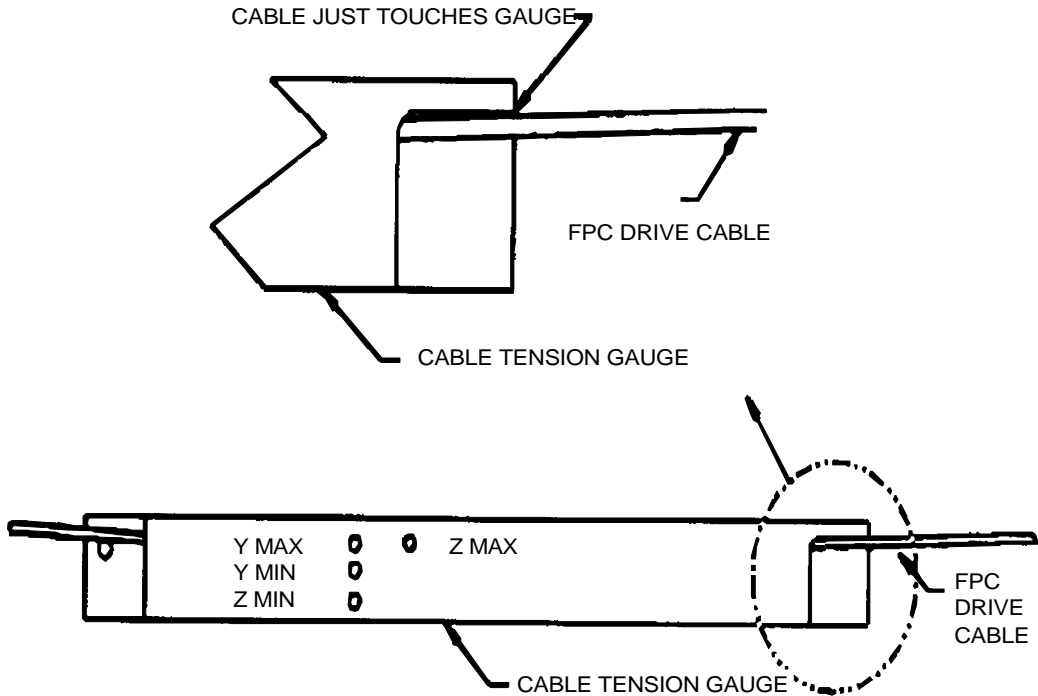

Figure 6. Adjust Cable Tension
- 4. If the Z-cable touches the tension gauge (refer to Figure 6), the cable tension is at, or below, the minimum specification. Adjust the cable tension as described in Section VII, Retension. If the Z cable is not touching the tension gauge, tension is above the minimum specification. No adjustment is required.
- 4. If the Y-cable touches the tension gauge (refer to Figure 6), the cable tension is at, or below, the minimum specification. Adjust the cable tension as described in Section VII, Retension. If the Y cable is not touching the tension gauge, tension is above the minimum specification. No adjustment is required.
4. Tighten Z-cable tension adjusting screw using a 3mm allen wrench until the gauge just lifts off the cable. (Refer to Figure 6.) No further adjustment is required.
4. Tighten Y-cable tension adjusting screw until the gauge just lifts off the cable. (Refer to Figure 6.) No further adjustment is required.